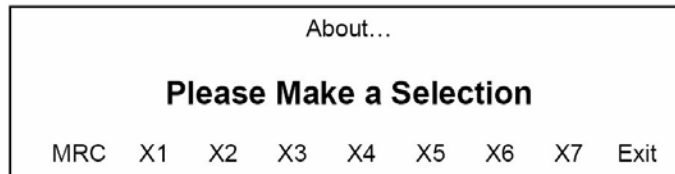

FIG. 51 About - Make a Selection
2. The following screen is displayed (FIG. 51):